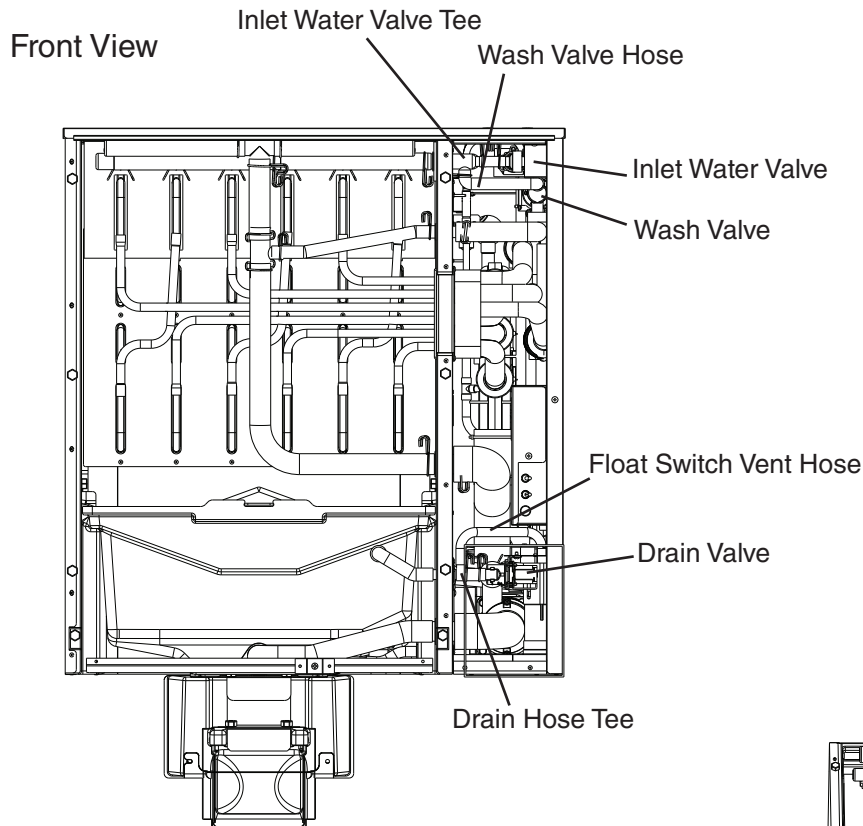

Fig. 4
- 8) Disconnect the wash valve hose from the inlet water valve tee, then unplug the water pump connector at the water pump. See Fig. 4.